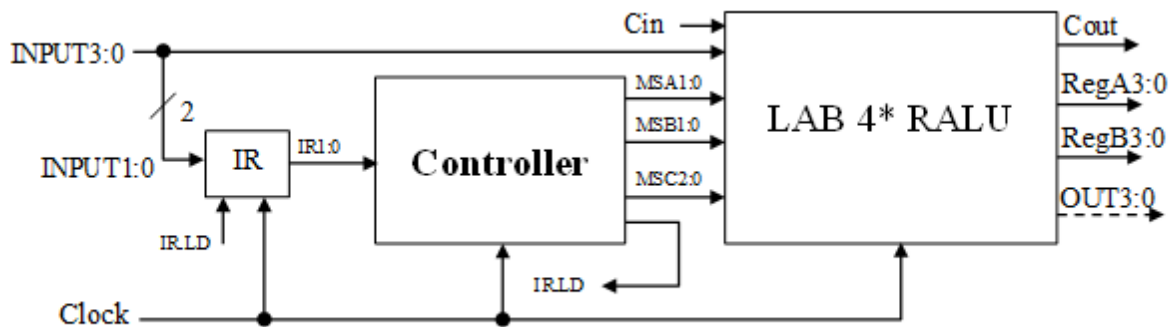

Figure 1. Block diagram of system components.
A state machine controller and Instruction Register (IR) are now added to the Lab 4* RALU to facilitate the execution of simple instructions. See Figure 1 for the total system components of this section. The **IR** register contains **2 bits** that represent the four instructions shown in Table 3. In this part of the lab, you will ultimately use Quartus to make the project **LAB6_Part1**.